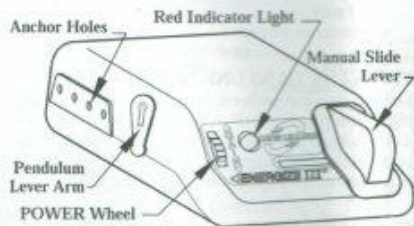
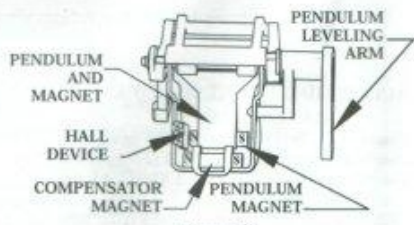

Figure 1
Figure 2
During braking, when the tow vehicle stop lamps come on, the controller electric circuit is activated by power on the red stoplight wire connected to the tow vehicle stop lamp switch. As the tow vehicle decelerates, due to increased brake pedal effort, the pendulum magnet (Fig. 2) pulls away from the pendulum hall device and sends an electrical signal for the controller to increase amperage to the trailer brakes. The trailer brakes will apply in direct proportion to the tow vehicle braking effort. The controller red indicator light (Fig. 1) will illuminate from dim to bright during the stop and will return to dim when deceleration is no longer detected. When the tow vehicle brake pedal is released, the controller and red indicator light will be turned off.
The gain wheel (Fig. 1) is located on the front left side of the controller and is used to adjust the amount of current to the trailer brakes for obtaining smooth, proportional and optimum tow vehicle and trailer brake response. To increase the amount of current required, rotate the gain wheel upward toward the top of the case. To decrease the amount of current required, rotate the gain wheel downward toward the bottom of the case.
The manual slide lever (Fig. 1) located on the front right side of the controller is used to apply the trailer brakes independently of the tow vehicle brakes or to override the automatic trailer brakes. The further the manual slide lever is moved from the right to the left, the greater the amount of trailer braking effort applied. The manual lever operation is an independent circuit and overrides the gain wheel adjustment to allow full braking effort when required.
- Pull the pendulum leveling arm (Fig. 1) toward the red indicator light. The red indicator light should illuminate bright red.
- Move the controller manual slide lever (Fig. 1) to the left, the controller red indicator light must become increasingly brighter and the tow vehicle stop lamps must illuminate.
- To adjust the gain wheel (Fig. 1) setting with the trailer connected.